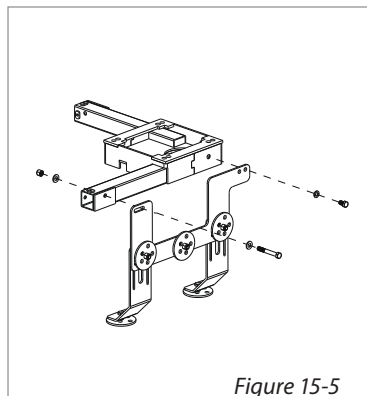

Figure 15-5
5. **Attach vertical joiner to base** using supplied hardware as indicated. *[Figure 15-5]*